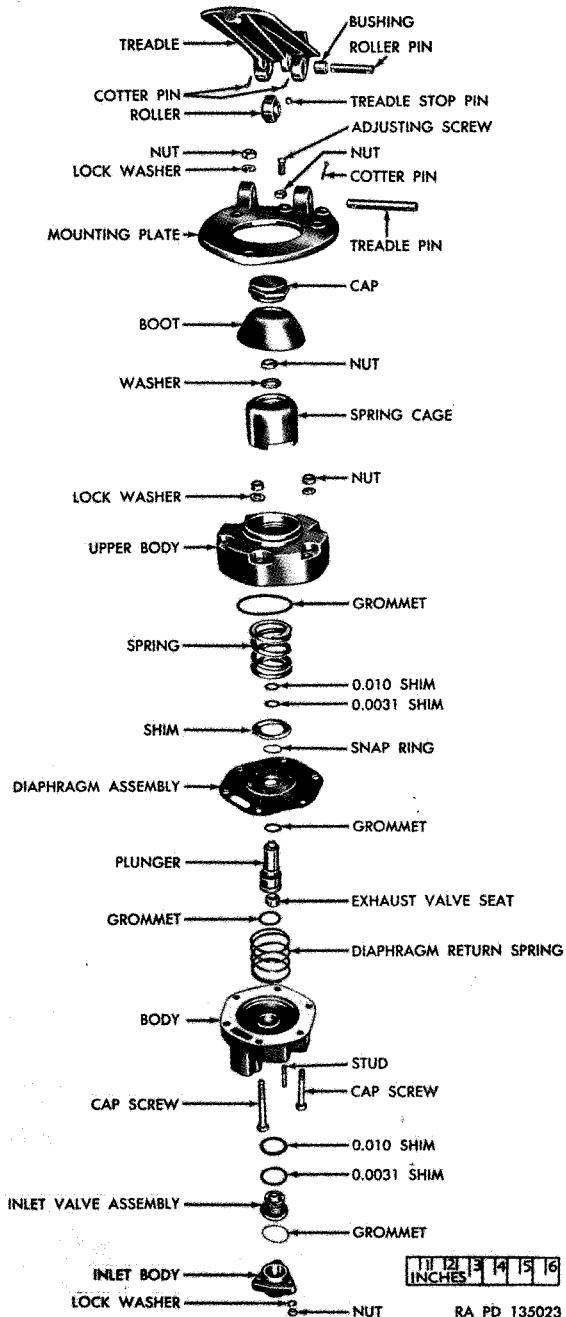

Figure 102. Type D-1 brake valve—exploded view.
- (1) When condition of brake valve is unknown, it should be subjected to operating tests before disassembly (par. 60). If valve meets requirements, it will be returned to service.
- (2) Each year or after each 50,000 miles, brake valves will be completely disassembled and rebuilt.
b. *Remove and Disassemble Treadle (or Lever)* (fig. 102). Remove cotter pin from end of treadle pin. Drive out treadle pin and remove treadle. If treadle roller is to be removed, remove cotter pin from end of roller pin. Drive out roller pin and remove roller.
c. *Remove Mounting Plate* (fig. 102). Remove three nuts and lock washers attaching mounting plate to upper body. Lift off mounting plate.
- (2) *Disassembly* (fig. 102). Clamp spring cage with strap wrench or hold cage by steps in bottom and remove cap. Loosen nut by holding plunger with a rod through exhaust hole and remove nut; washer, and shims. Lift spring cage, spring, and shims from plunger. To remove diaphragm, remove snap ring and slip diaphragm assembly from plunger.
c. Install Treadle Assembly (fig. 102). Put roller in place and push roller pin through bushings of treadle assembly. Secure with a cotter pin. Position treadle assembly and install treadle pin, being sure the cotter pin hole in the pin lines with the hole in the treadle, then install cotter pin.